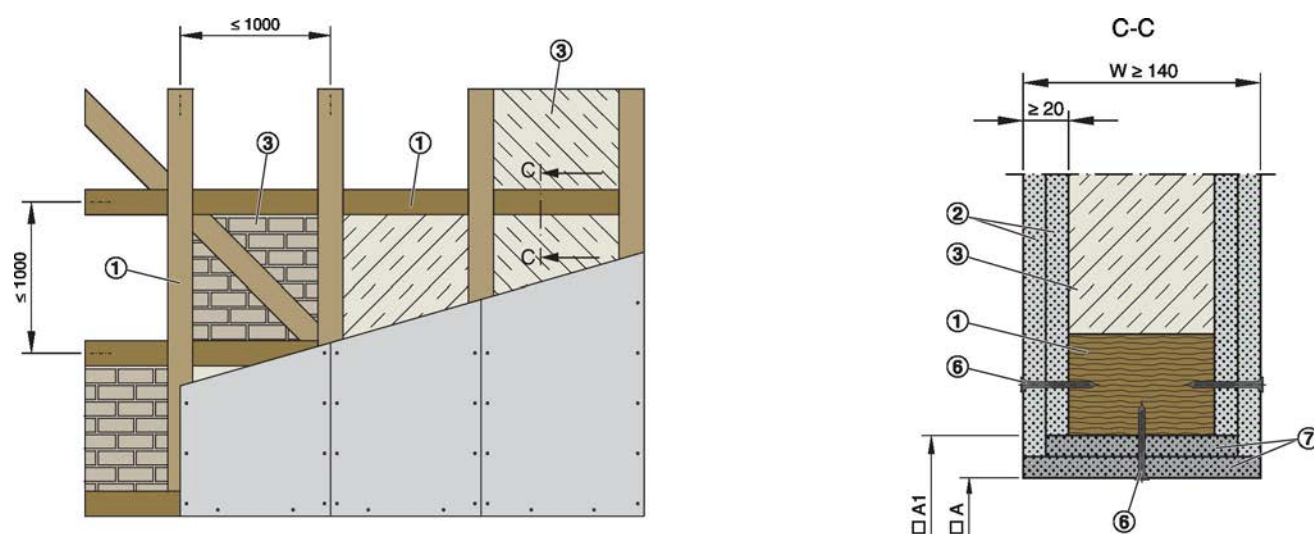

Fig. 29: Lightweight partition wall, half-timbered construction with cladding on both sides
- Create an installation opening in the timber support structure with timber studs ①, horizontal timber sections ② and trim panels ⑦; or create an installation opening in the half-timbered construction ① with trim panels ⑦, see Fig. 28 or Fig. 29.